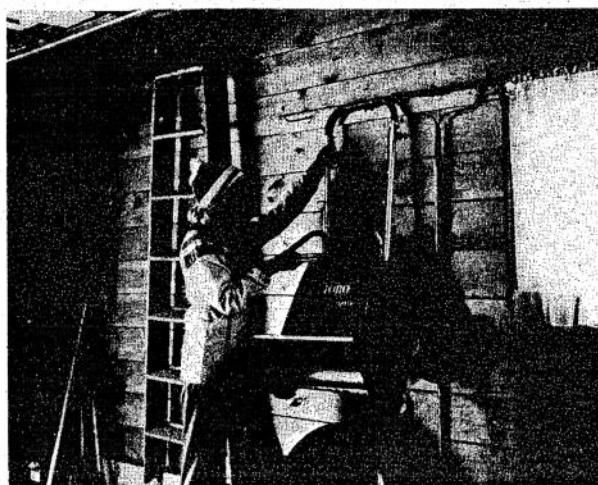

Figure 13
8. Move vanes to forward position when storing snowthrower. Hang snowthrower by upper handle for convenient storage (Fig. 13).